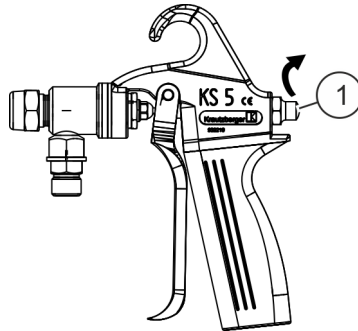

Fig. 6: Unfasten valve lock screw
1.  Unscrew the valve lock screw (Fig. 6/1).